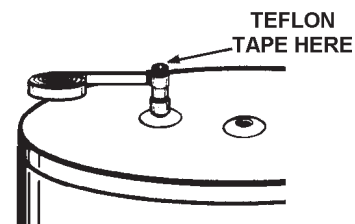

FIGURE 21.
- Put two or three turns of teflon tape or pipe joint compound around the exposed end of the 1" NPT threaded nipples for 75 gallon models or 1.25" NPT threaded nipples for 100 gallon models, see Figure 21.